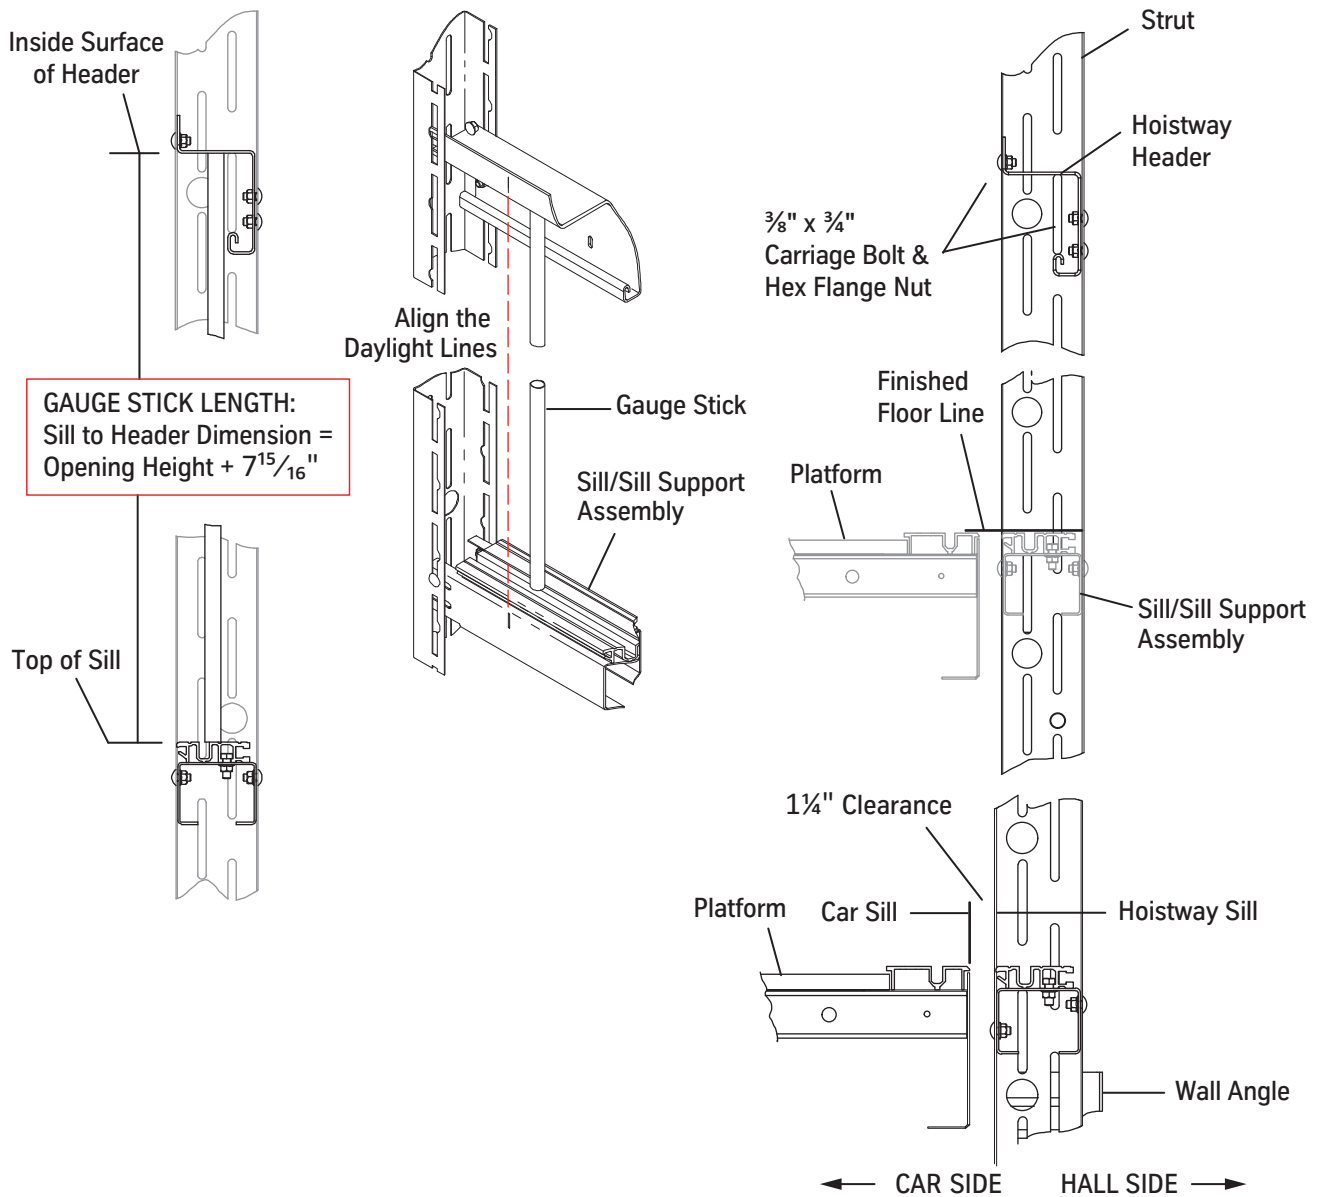

Figure 53 - Install and Adjust the Hoistway Header
2. Place the gauge sticks on the sill of the landing below, one at each end of the sill. See Figure 53 on page 78 for all steps on this page.